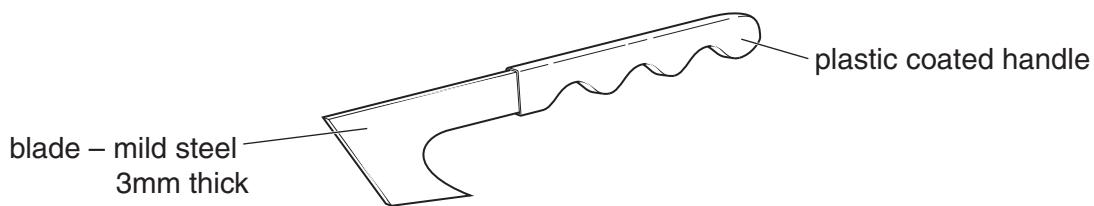

Fig. 2
- 2 Fig. 2 shows a tool used to remove weeds from the gaps between paving slabs.
- (a) Complete the list below to give the stages needed to plastic-coat the handle of the tool shown in Fig. 2.
- (b) The mild steel blade of the tool shown in Fig. 2 is found to go blunt quickly.
- (c) Describe how ergonomics has been used in the design of the tool shown in Fig. 2.
- (d) The tool shown in Fig. 2 is produced in batches by laser cutting.